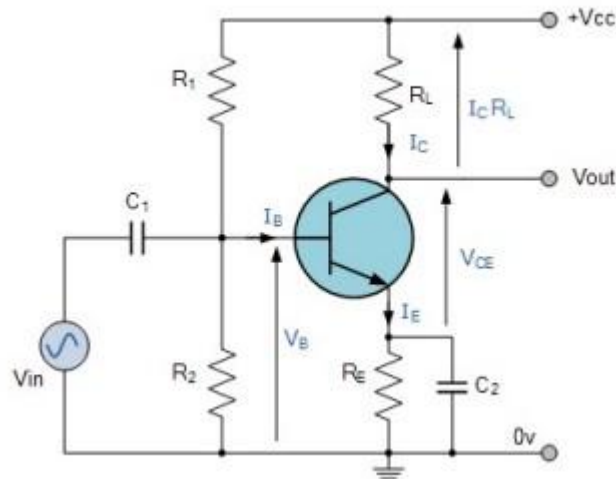

Figure 1: A Single Stage Common Emitter BJT Amplifier with Voltage Divider Bias
In this lab, a single stage Common Emitter (CE) BJT amplifier will be studied and characterized. We will determine the load line & operating point of the CE amplifier circuit and measure the voltage gain of the circuit. The CE BJT amplifier configuration with voltage divider bias is shown in the Figure 1.
The DC operating point of the amplifier can be determined by drawing the load line onto the output characteristics of the BJT. From the DC analysis of the circuit shown in Figure 1,